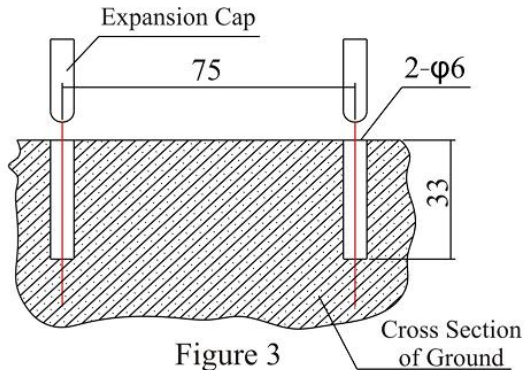

Figure 3
② Installed method of expansion screw
a. As Figure 3 showed, drill two holes (distance 75mm, DN6mm depth 33mm) on the ground where the detection point most easily touched the water. Take two plastic expansion caps from accessory bag and put into the hole.